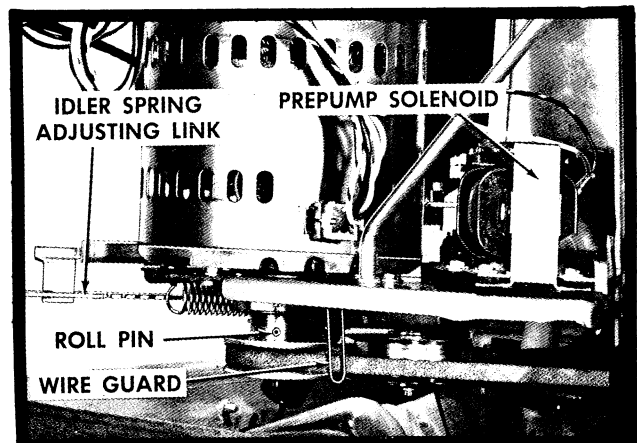

Figure 58
3. Release the idler tension spring adjusting link, *Figure 58*.